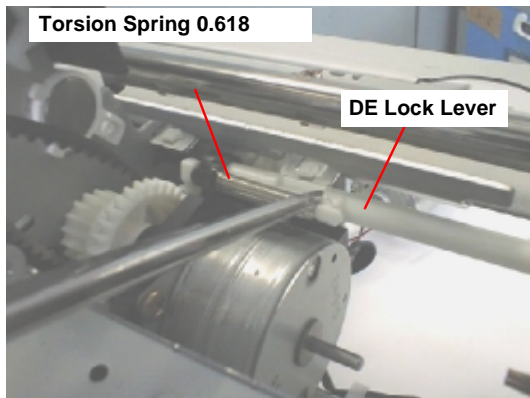

Figure 4-22. Removing the Tension Spring 0.618
- 7) Remove the Torsion Spring 0.618 between DE Lock Lever and the hook on the DE unit. Refer to Figure 4-22.